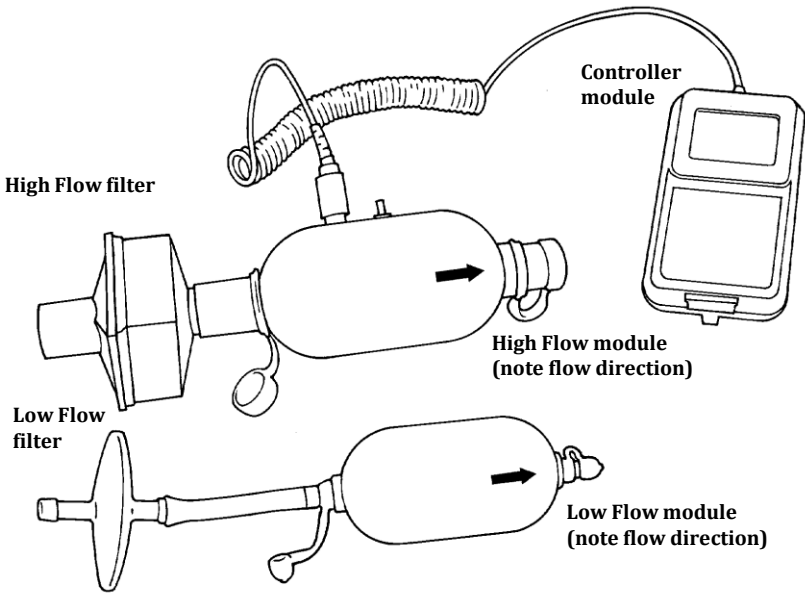

Figure 4. Connecting the Bacteria Filters to the Flow Modules
2. Attach the bacteria filter to the flow module (Figure 4).